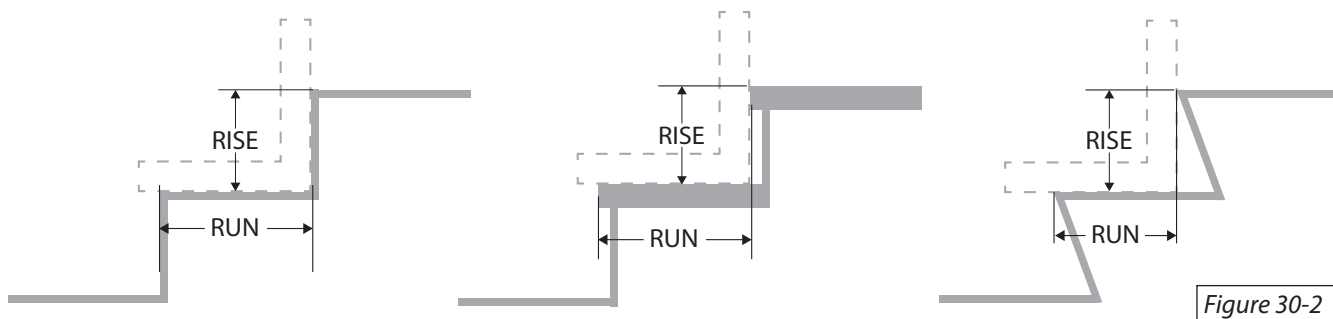

Figure 30-2
2. To figure the overall length of the rail you must know the flight angle of your stairway. Measure your rise and run as shown in Figure 30-2. Use the chart on page 31 and its key to figure the flight angle and the corresponding overrun. Enter the overrun into BOX 2 of the Rail Length Worksheet below